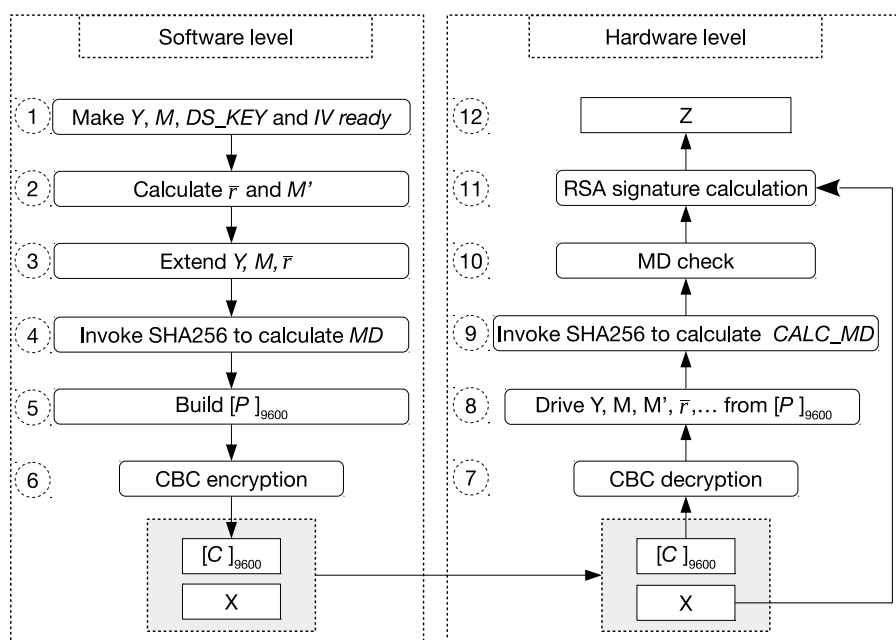

Figure 22-1. Software Preparations and Hardware Working Process
If users want to use the DS module for digital signature, the software and hardware must work closely to implement this successfully, and the software needs to do a series of preparations, as shown in Figure 22-1. The left side lists preparations required by the software before the hardware starts RSA signature calculation, while the right side lists the hardware workflow during the entire calculation procedure.
1. The software preparation (left side in the Figure 22-1) is a one-time operation before any signature is calculated, while the hardware calculation (right side in the Figure 22-1) repeats for every signature calculation.
You need to follow the steps shown in the left part of Figure 22-1 to calculate  $C$ . Detailed instructions are as
#### 1. Decryption: Step 7 and 8 in Figure 22-1
The decryption process is the inverse of Step 6 in figure 22-1. The DS module will call AES accelerator to decrypt  $C$  in CBC block mode and get the resulted plaintext. The decryption process can be represented by  $P = \text{AES-CBC-DEC}(C, DS\_KEY, IV)$ , where  $IV$  (i.e.,  $[IV]_{128}$ ) is defined by you.  $[DS\_KEY]_{256}$  is provided by HMAC module, derived from  $HMAC\_KEY$  stored in eFuse.  $[DS\_KEY]_{256}$ , as well as  $[HMAC\_KEY]_{256}$  are not readable by users.
#### 2. Check: Step 9 and 10 in Figure 22-1
The DS module will perform two checks: MD check and padding check. Padding check is not shown in Figure 22-1, as it happens at the same time with MD check.
### 3. Calculation: Step 11 and 12 in Figure 22-1